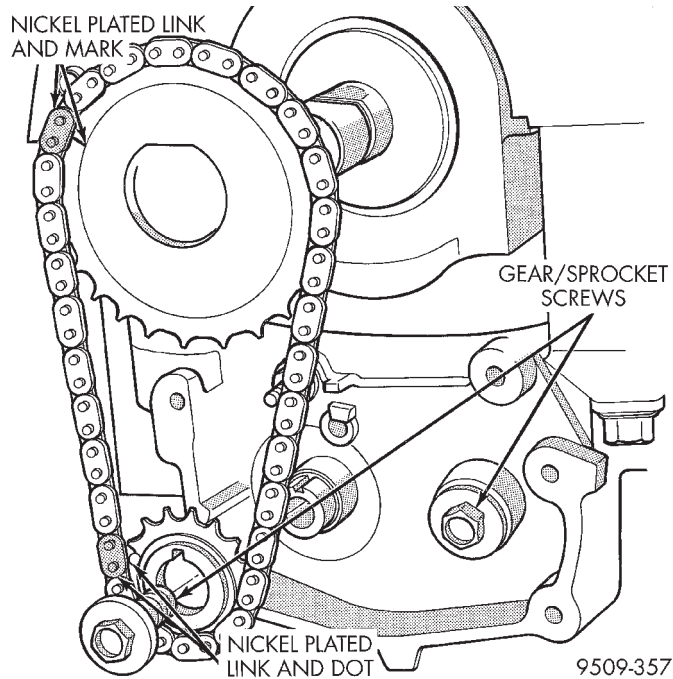

Fig. 35 Drive Chain and Sprockets
(3) Remove balance shaft gear and chain sprocket retaining screws and crankshaft chain sprocket. Remove chain and sprocket assembly (Fig. 35). Using two wide pry bars, work the sprocket back and forth until it is off the shaft.